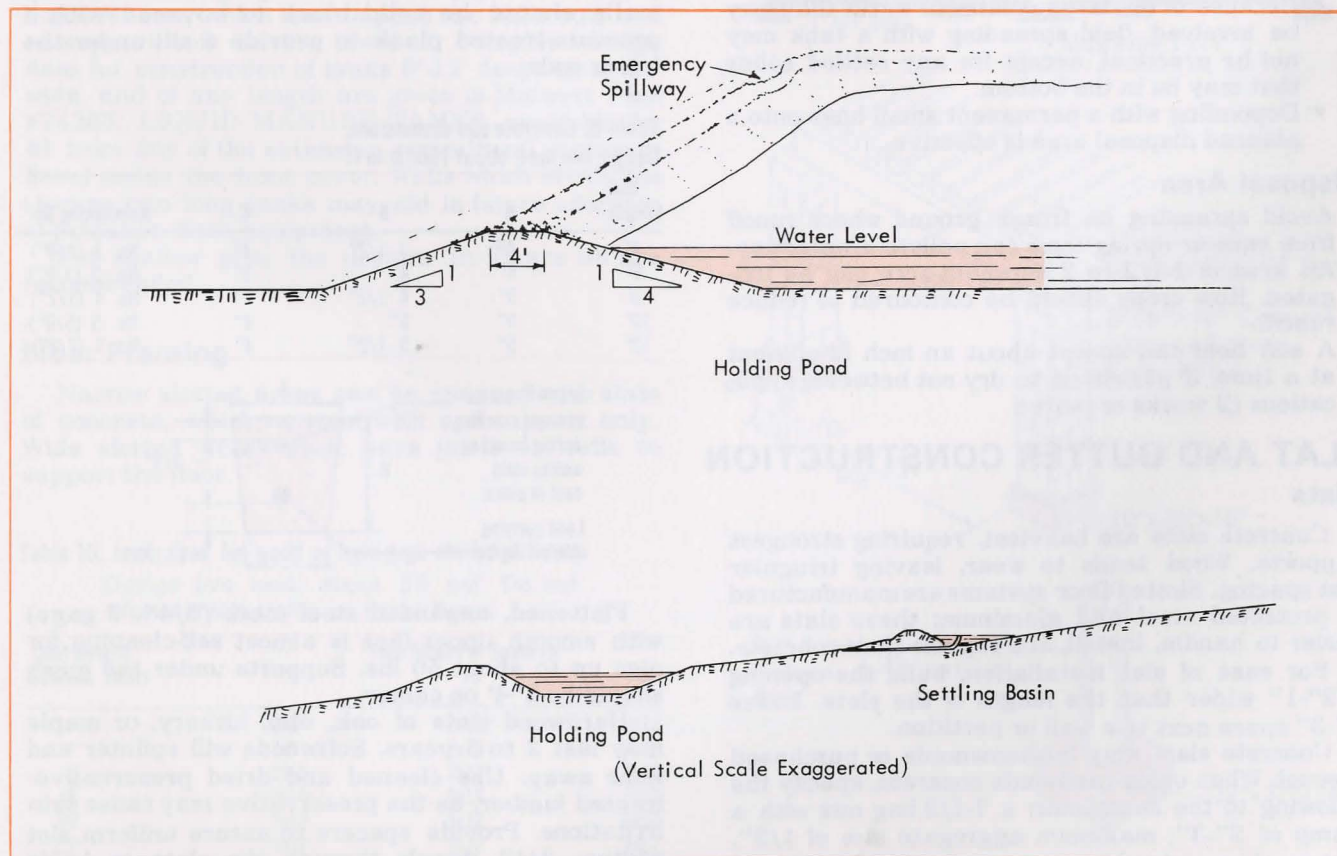

Figure 64. Runoff control facilities.
- The banks of earth dams should be no steeper than 1:3 (Fig. 64.); maintain sod and mow weeds.